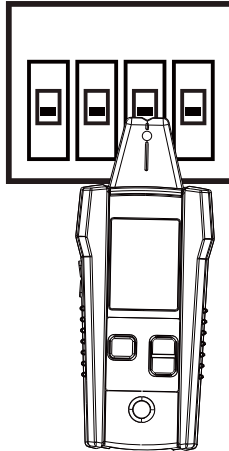

Figure 3.2c: Aligning the Tip Sensor groove with the breaker/fuse
2. Align the groove on the Tip Sensor with the breaker/fuse lengthwise (See Figure 3.2c).